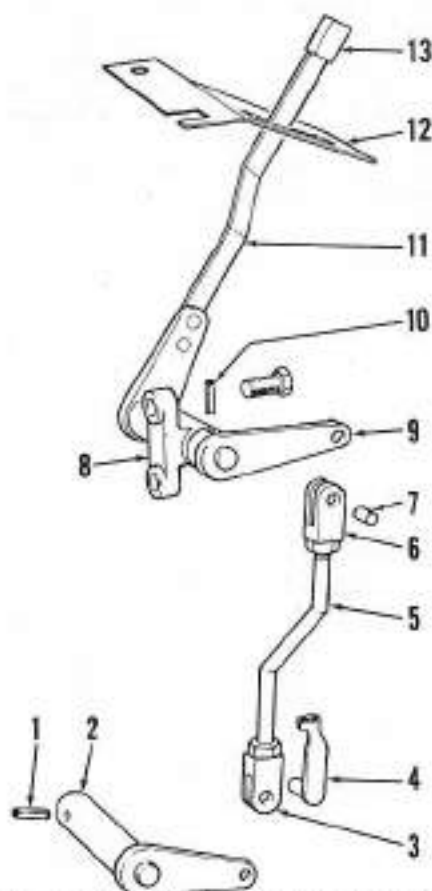

Fig. 14—Exploded view showing component parts of the transfer gearbox engagement lever.
27. REMOVE AND REINSTALL. To remove the transfer gearbox, first drain transmission (approx. 9 gal.) and disconnect engagement lever (2-Fig. 14). Remove transmission top cover,